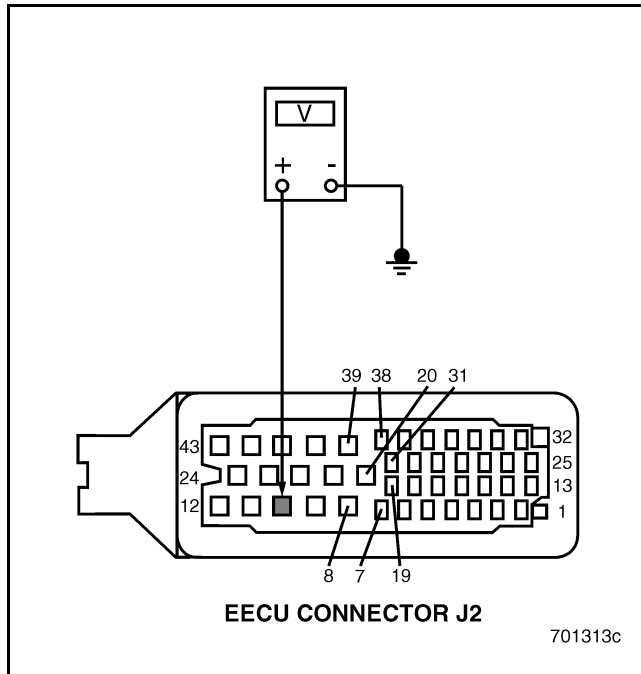

Figure 665
2. Remove Fuse 40 from the Engine Power Distribution Module (CV) or the Electrical Equipment Panel (MR and LE).
5. Measure the voltage between the EECU connector J2 pin 10 and a good ground (see Figure 665).